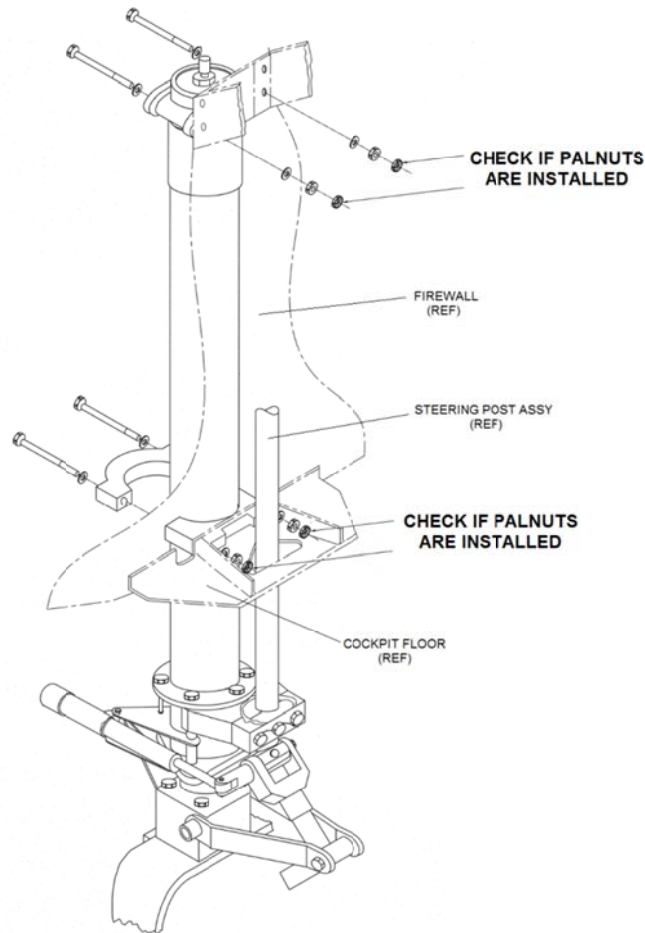

FIGURE 3 NOSE LANDING GEAR - INSPECTION
- 4) Inspect the Nose Landing Gear attachment bolts (See Figure 3):
- 6) Inspect the Nose Landing Gear attachment bolts (See Figure 3):